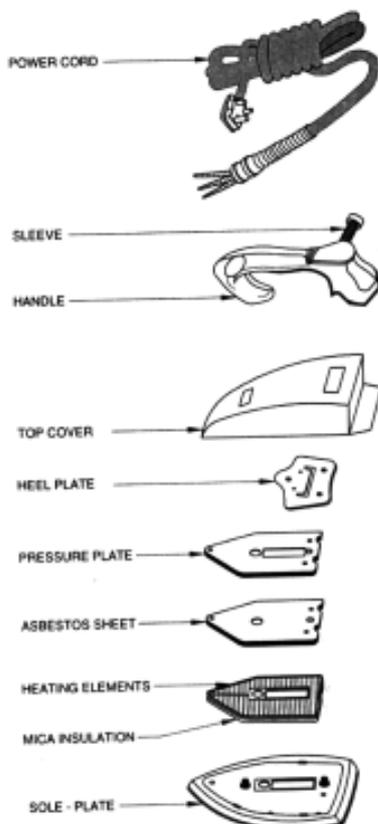

Fig. 9.1 Parts of Iron Box
**Constructional details:** The principal parts of the iron box is shown in Fig. 9.1